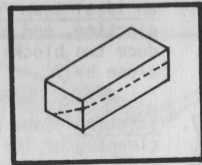

Fig. 14 - Side Break
54. Side Breaks (See Fig. 14.) Move the lower adjusting bolts (G and H) sideways toward the high side of the break (see Fig. 1). If more adjustment is needed, move the upper adjusting bolts (E and F) toward the low side of the break. This can sometimes be done simply by hammering the bolt sideways (with a piece of wood, so that the threads will not be damaged) rather than by loosening and tightening the nuts. After the bolts are hammered over, tighten the nuts.